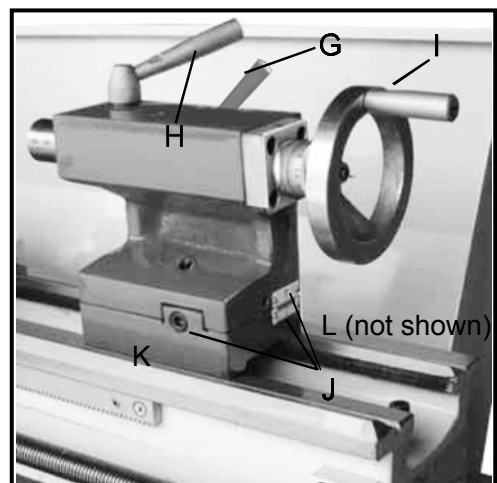

Fig. 16
16. Tailstock Clamping Handle (G, Fig. 16)
17. Tailstock Quill Clamping Lever (H, Fig. 16)
18. Tailstock Quill Travel Handwheel (I, Fig. 16)
19. Tailstock Off-set Adjustment (J, Fig. 16)